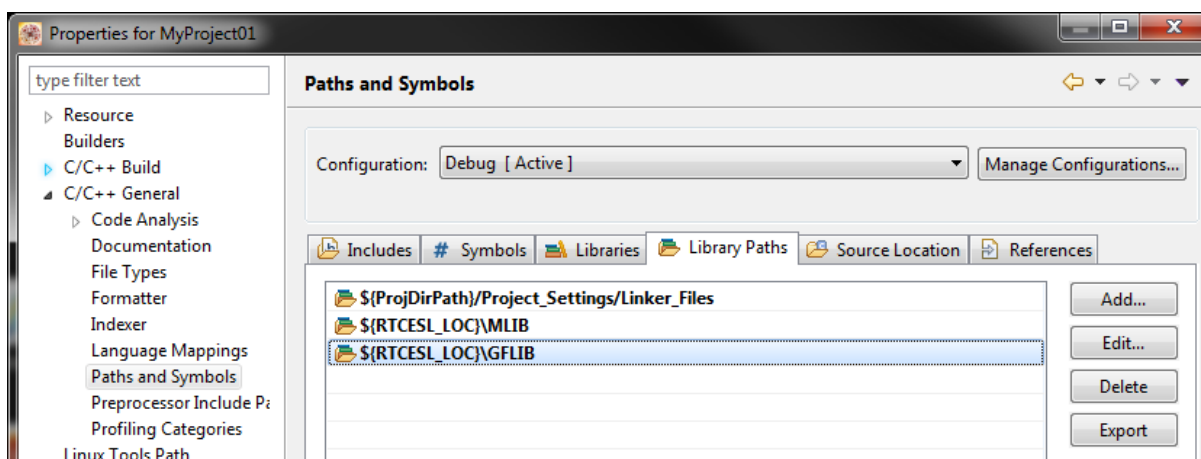

Figure 1-20. Library paths
3. In the right-hand dialog, select the Library Paths tab. See Figure 1-20.
8. Click OK, and the paths will be visible in the list. See Figure 1-20.